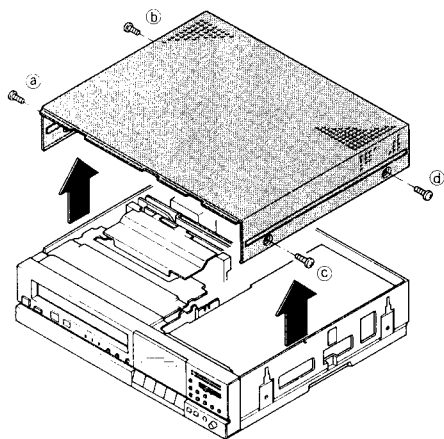

Fig. 2-1
- 1) As shown in Fig. 2-1, remove the four screws (a, b, c and d), two on each side retaining the top cover.